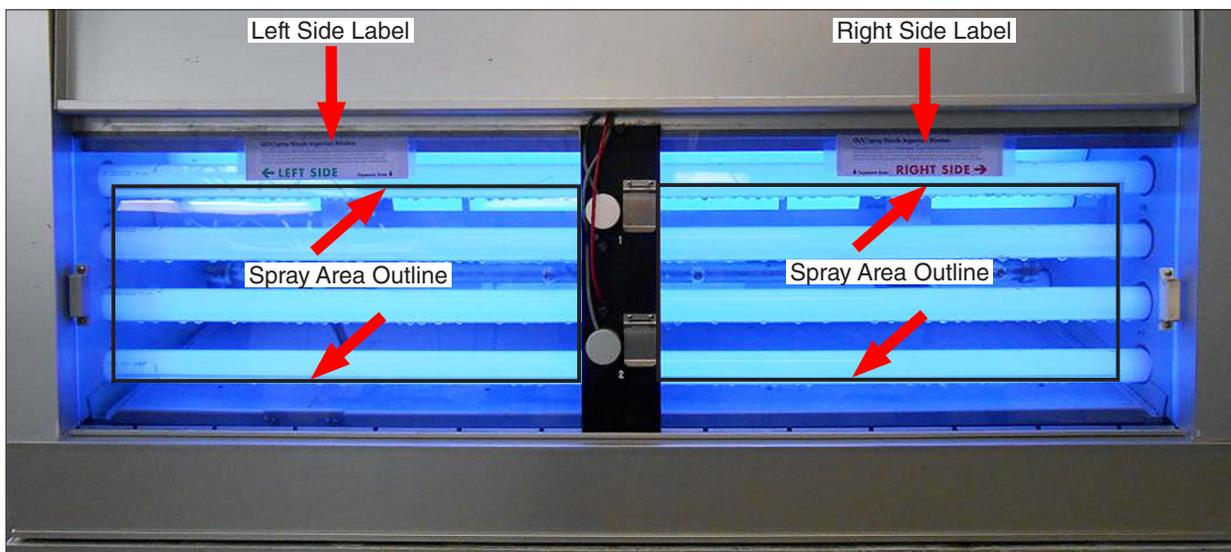

Figure 16.3a: Left side and right side spray inspection windows in place showing spray areas.
- There are six (6) nozzles on the front and six nozzles on the rear of the QUV tester.
- Install the left and right side inspection windows in front of the lamps as shown in Figure 16.3a.